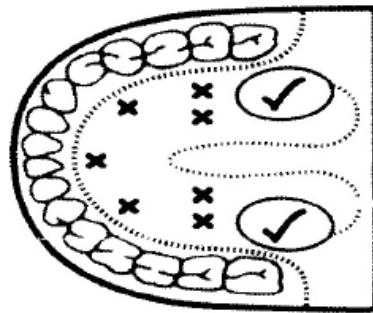

Figure 6
- Oral Mode: Place thermometer under tongue as indicated by ”✓” position shown in Figure 6. Close your mouth and breathe evenly through the nose to prevent the measurement from being influenced by inhaled/exhaled air.